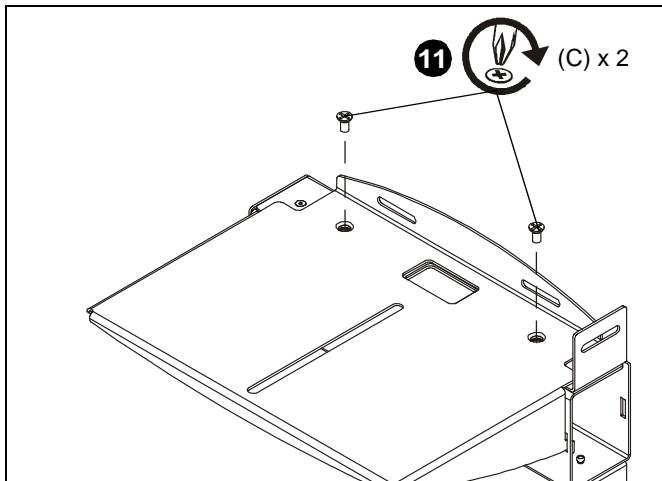

Figure 7
10. Slide shelf (A) into bracket (B), ensuring that tabs in shelf assembly hook into attach bracket slots.
11. Fasten shelf (A) to bracket (B) using two 10-24 x 3/8" Phillips flathead screws (C). (See Figure 7)